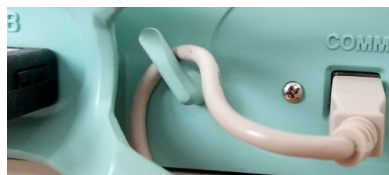

Figure 3 - Knob for USB Cable
2. Connect the USB cable to the communication port on the EndoPAT™x device, and to one of the computer's USB ports. Use the strain relief knob on the EndoPAT™x rear panel for ensuring that the USB cable is not unintentionally detached from the device (Figure 3).